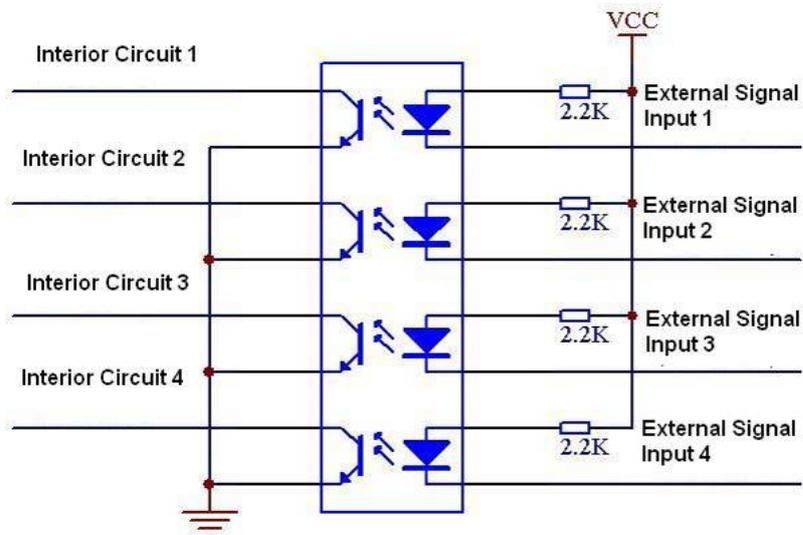

Figure 3-7
- The controllable +12v can be used to restore the smoke detector. Please refer to Figure 3-7 for alarm input module information.